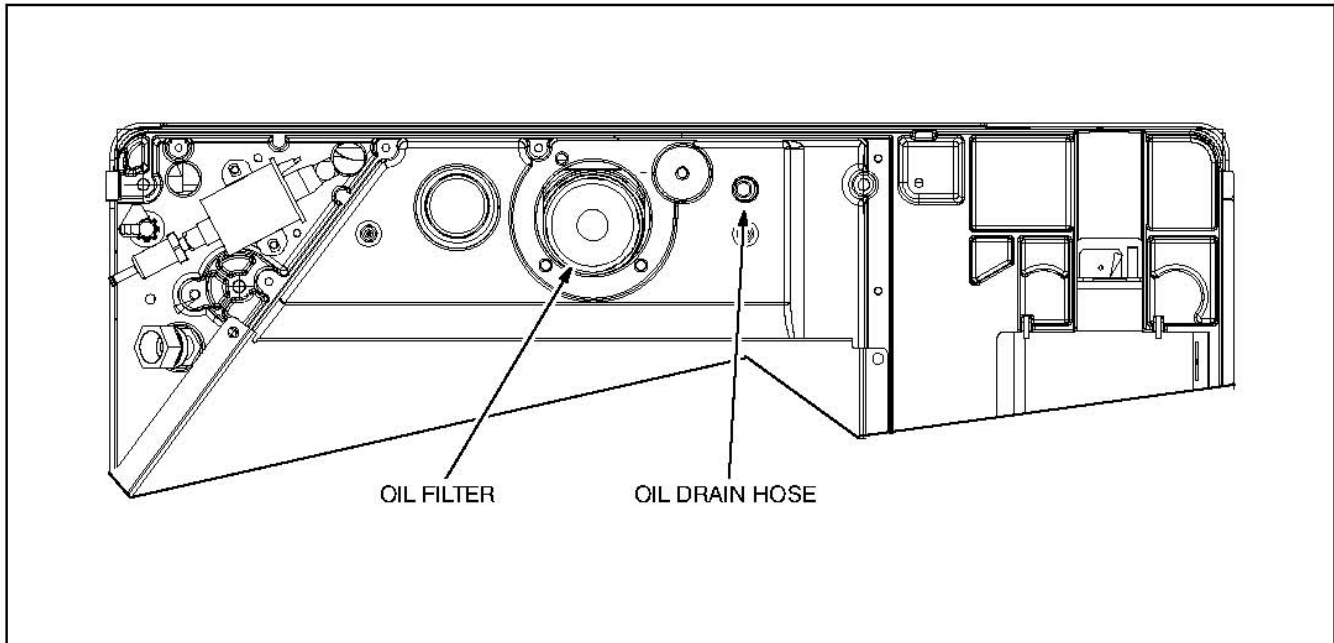

FIGURE 10. OIL FILTER AND DRAIN HOSE—VIEW FROM BELOW OF FRONT EDGE OF GENSET
1. Place a pan underneath the oil drain hose and filter (Figure 10). Run and then stop the engine when it is warm.